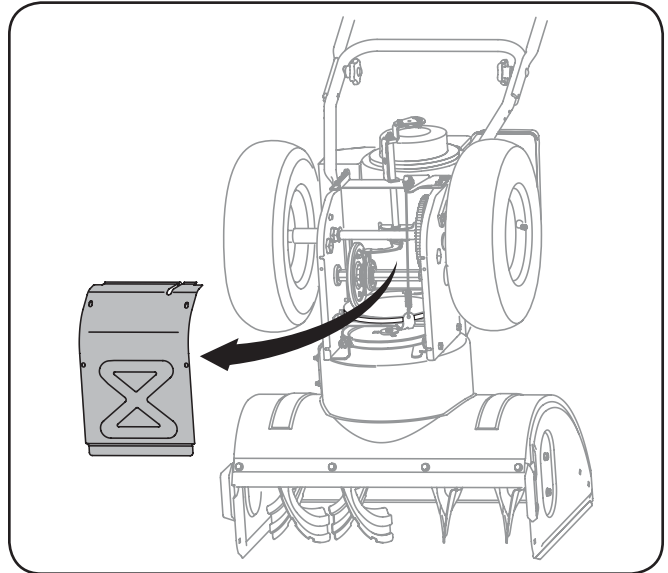

Figure 7-3
3. Remove the frame cover from the underside of the snow thrower by removing the self-tapping screws which secure it. Refer to Fig 7-3.
5. Remove the frame cover from the underside of the snow thrower by removing the self-tapping screws which secure it. See Fig. 7-3.
- Remove the frame cover from the underside of the snow thrower by removing the self-tapping screws which secure it. Refer to Fig. 7-3.